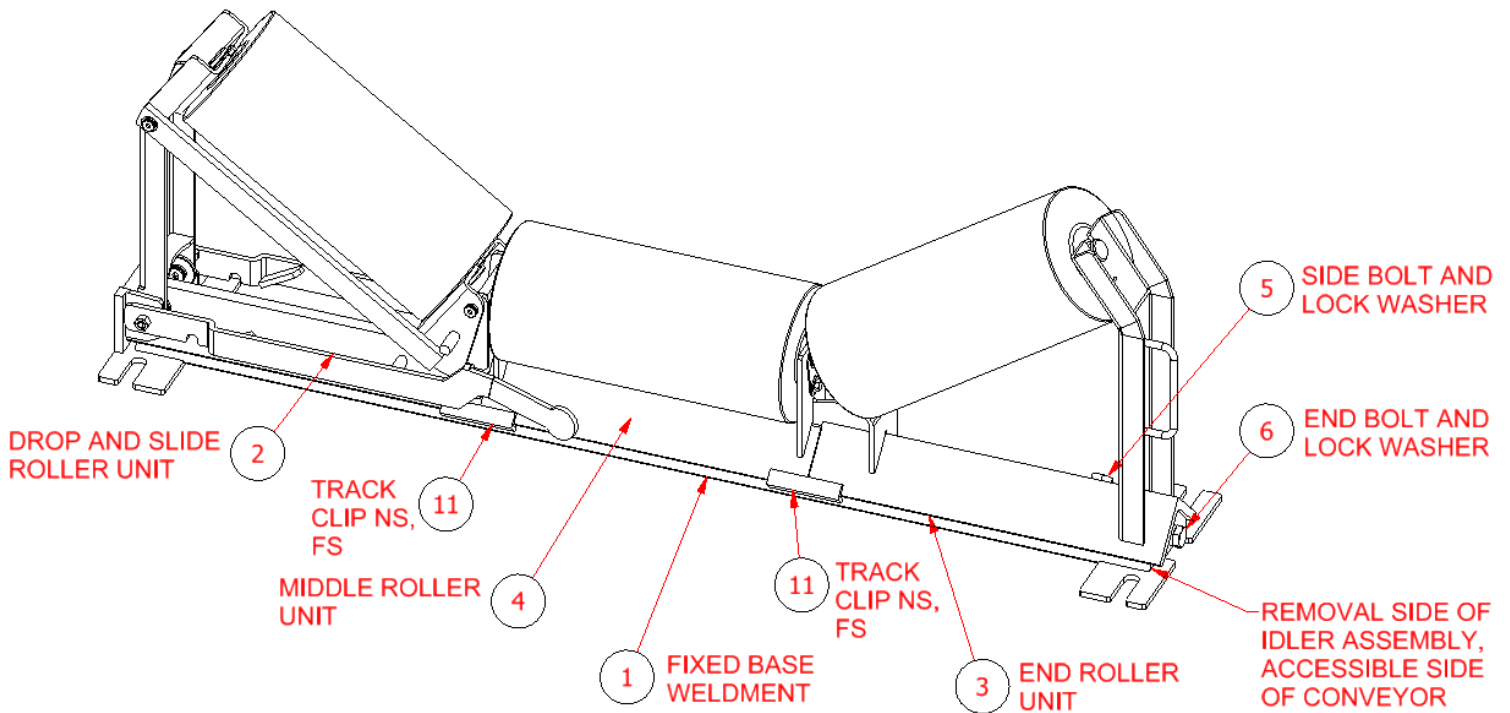

Figure 1
2. Remove the three roller units of the Drop and Slide Out Idler as shown in Figure 1.